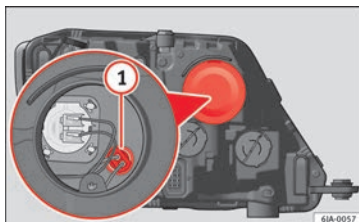

Fig. 144 Changing side light bulbs.
- Remove the protective cover »» Fig. 144.
- Remove the bulb holder »» Fig. 144 ① by pulling it outwards.